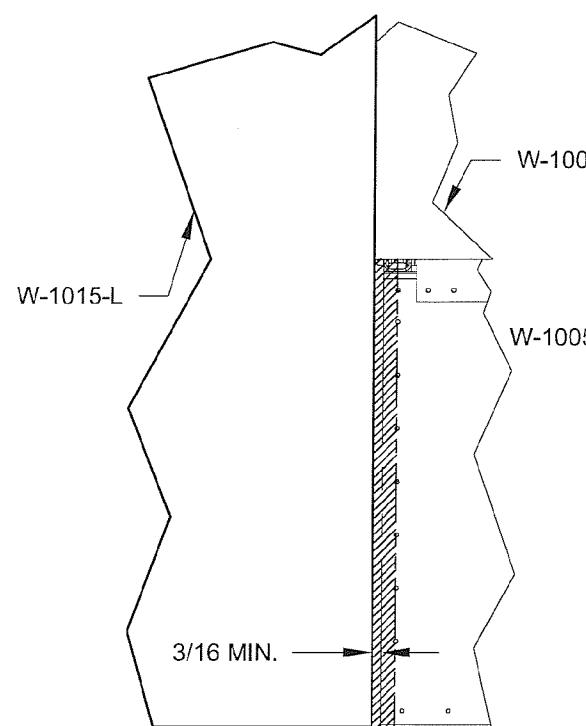
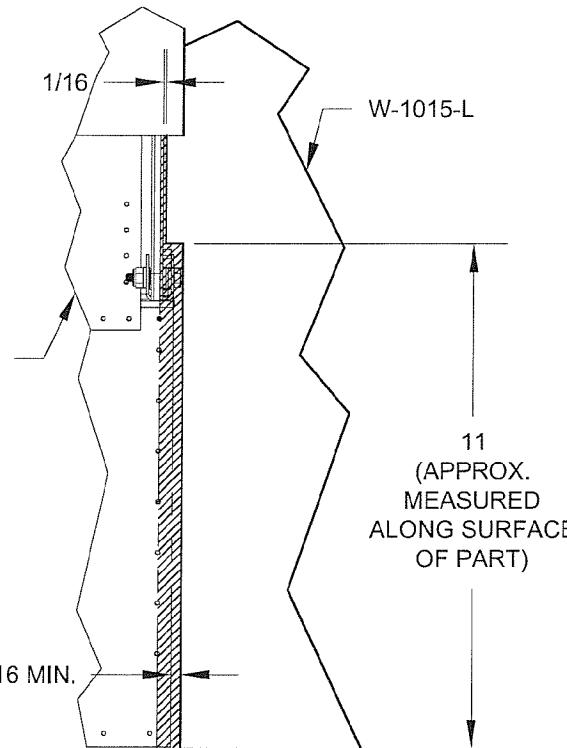
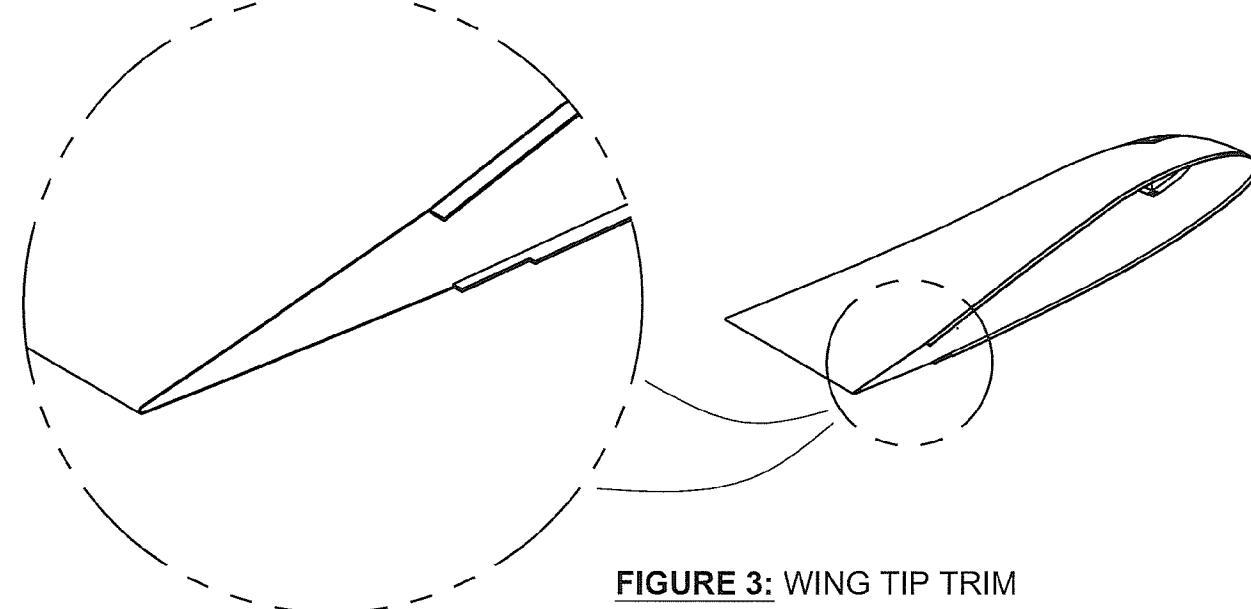

FIGURE 1: WING TIP TOP TRIM
FIGURE 2: WING TIP BOTTOM TRIM
FIGURE 3: WING TIP TRIM
Step 1: Trim away material in the shaded areas from the W-1015 Wing Tip as shown in Figure 1, Figure 2 and Figure 3. This will provide clearance between the wing tip, the W-1014 Outboard Aileron Hinge Bracket Assembly and the aileron assembly. Trim both the top and bottom sides of the wing tip to provide a 3/16 minimum gap between the wing tip and the outboard edge of the aileron assembly (see Figure 1 and Figure 2). Trim the top of the wing tip even with the aft edge of the W-1003 Wing Skin (see Figure 1). Trim the bottom of the wing tip starting with the dimensions given in Figure 2. Check that this trim provides a 3/16 gap between the forward edge of the A-1006 Outboard Hinge Bracket and the wing tip when the aileron is rotated to full up deflection. See Section 23 for aileron travel.